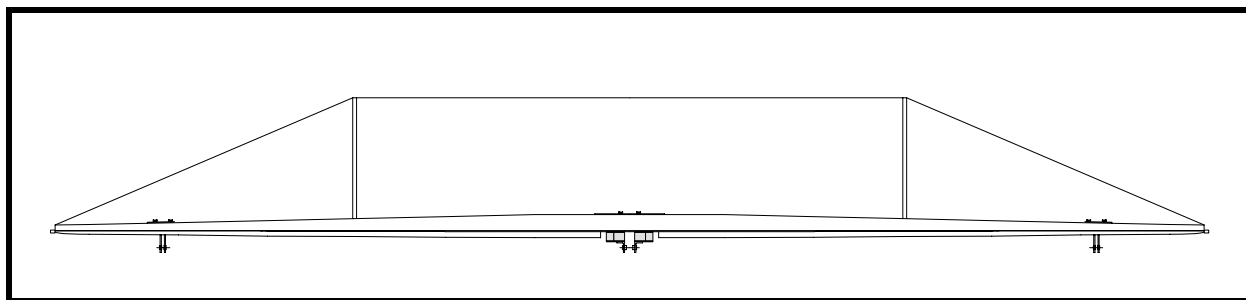

Figure 3
- ❑ Fit the intermediate ribs for Sta. 3, P/N 405-2, to the main spar. See Figure 3. Clamp in place.
- ☐ Loop a string over the ribs to locate the centerline of the inboard ribs. The ribs should be braced for the tension of this string. See Figure 3.